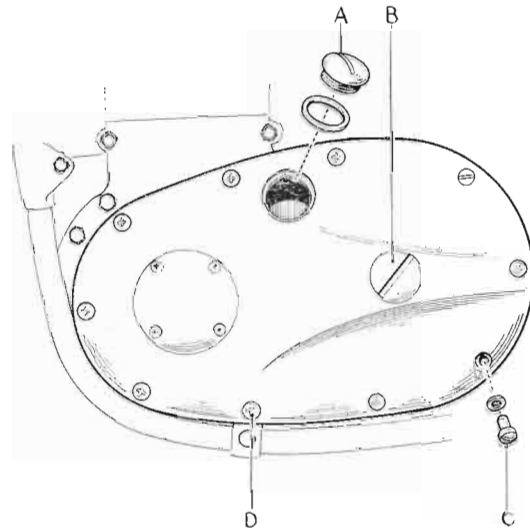

FIG. A.12.
There are two of the chaincase cover screws which have their heads painted red; they are situated midway along the lower rim of the case, the rear one being the oil level screw (C) and the front is the drain screw (D)—see Fig. A.12. Note that these screws are fitted with aluminium washers to ensure oil-tightness.